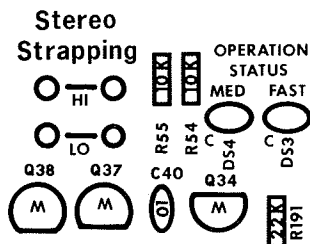

FIGURE 3-14 MED/FAST STATUS LAMPS
3.5.3 MED/FAST Status (Figure 3-14)